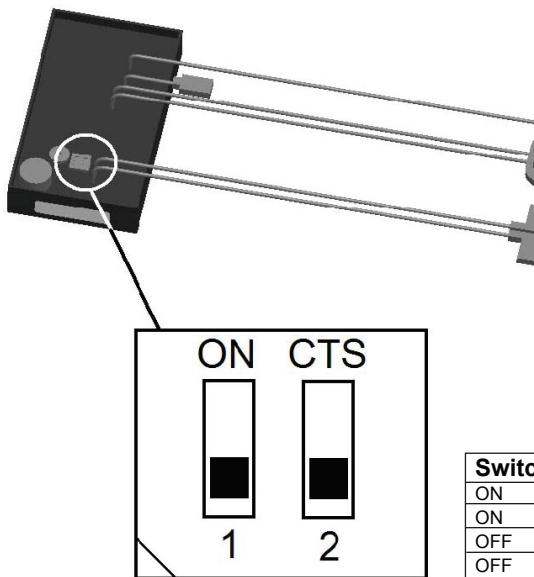

Fig. 7
2. Locate the sensitivity selector switch located on the driver board (Fig. 7).
3. Using a finger or small screwdriver, gently set the sensitivity level one step down from its current position. Use the sensitivity selection chart (Fig. 7) to ensure the correct setting is chosen.
**NOTE:** Fig. 7 depicts a driver board with the LOW Sensitivity setting selected.